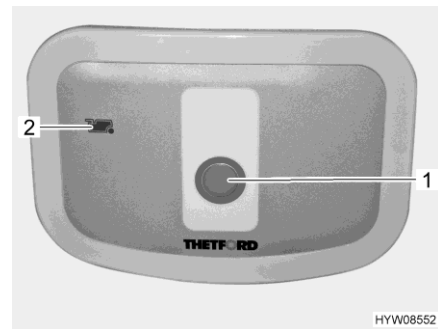

Fig. 218 Flush button/indicator lamp (Thetford toilet)
- For flushing, press the blue flush button (Fig. 218,1).
The indicator lamp (Fig. 218,2) lights up whenever the sewage tank has to be emptied.